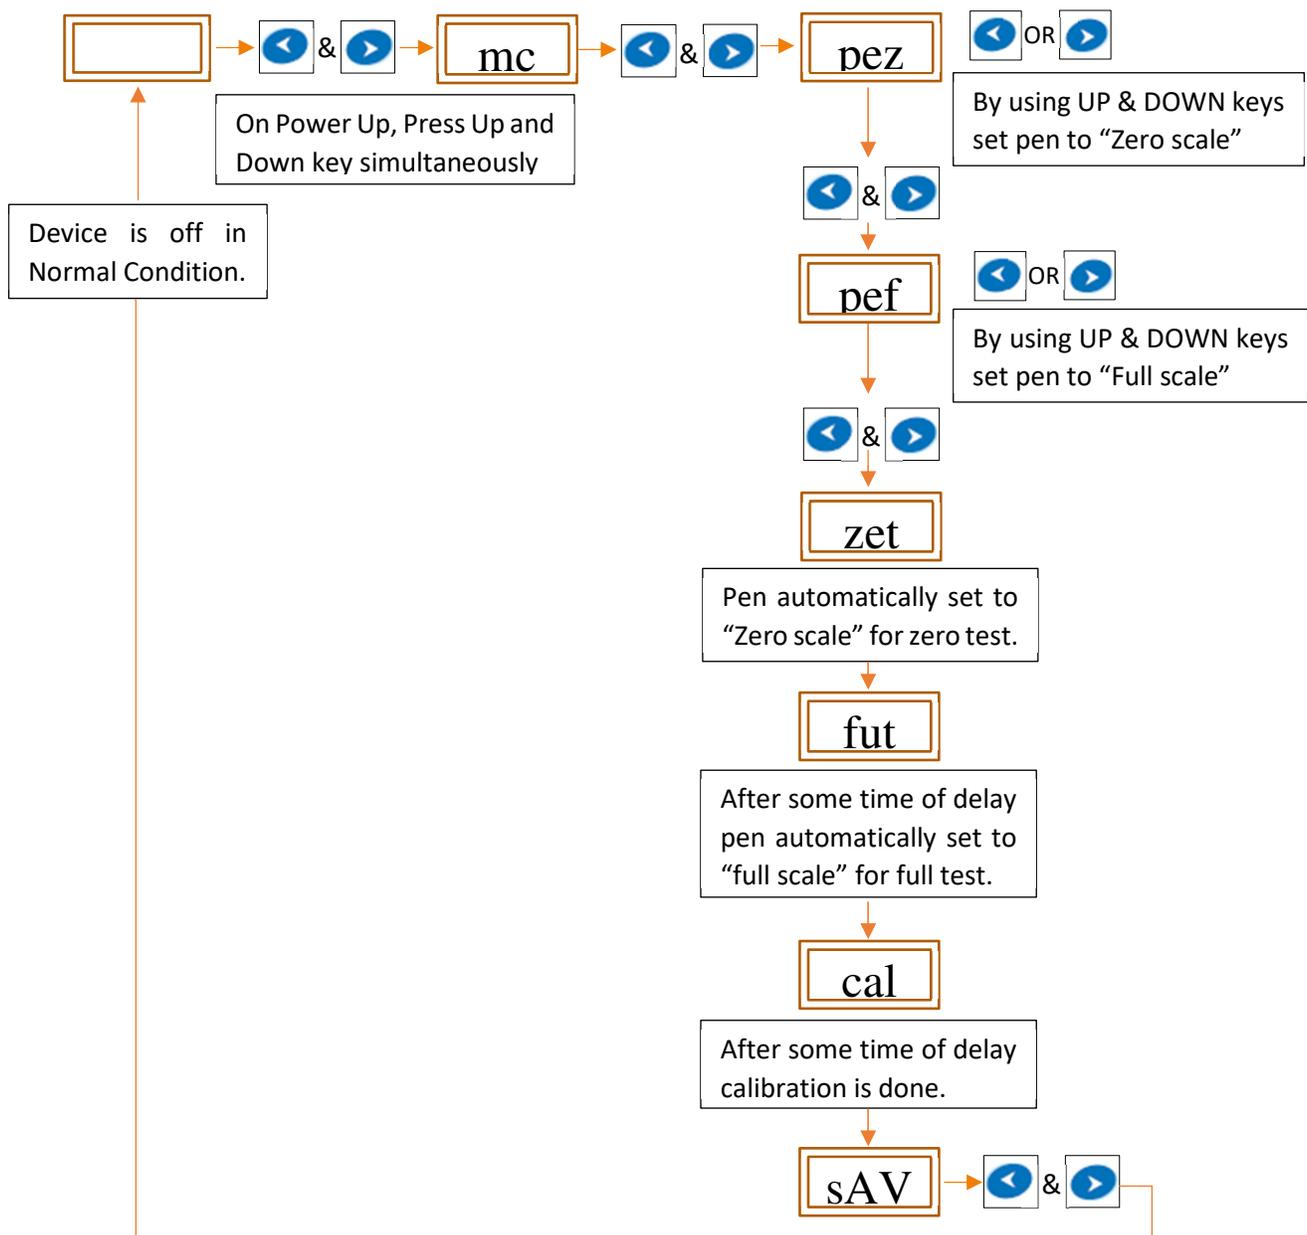

Figure 13 Mechanical calibration
- This involves setting of Pen zero and Pen full scale on chart, through the front panel keyboard. User can calibrate the Recorder by following the sequence shown in figure 13.